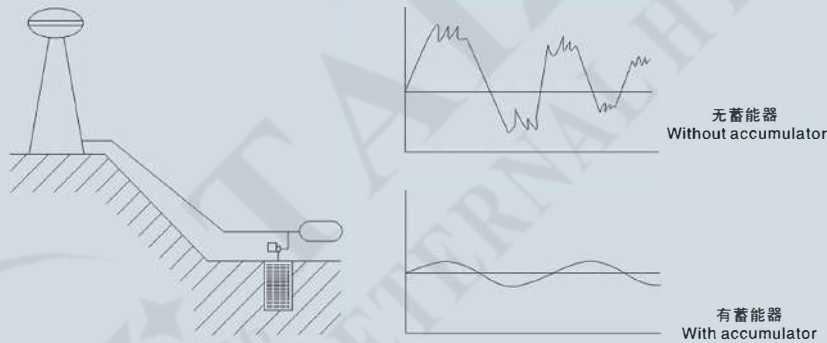

图7 Fig.7
5、阀的快速关闭会产生冲击波(水锤现象)，导致管子、接头、阀等部件的损坏。使用蓄能器能大大地减少中击。典型用途为水管(图7)、燃油和油的远距离管路、洗涤设备等。
Rapid valve closure can produce shock waves(water hammer)resulting in over pressurization of pipes, joints, valves etc. The use of a suitable accumulator can neutralize or significantly reduce the shock, Typical applications are water(fig.7), fuel and oil distribution circuits, washing equipment etc.